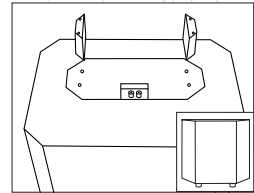

Figure 3
4. Place the two trapezoidal tower supports on the subwoofer mounting plate with the larger flat surfaces facing inwards and the protrusions inserted into the screw holes in the mounting plate. (Figure 3)